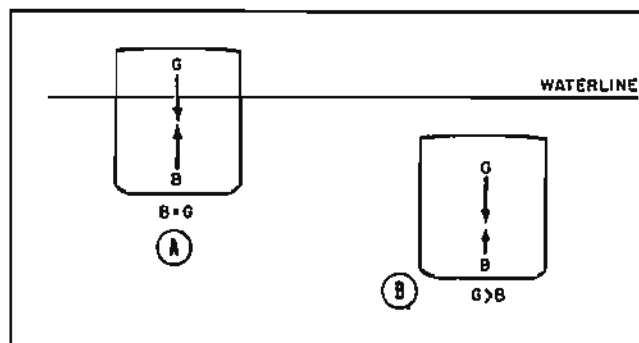

Figure 11-2. Interaction of force of gravity and force of buoyancy.
From Archimedes' law, we know that an object floating on or submerged in a fluid is buoyed up by a force equal to the weight of the fluid it displaces. The weight (displacement) of a vessel depends upon the weight of all parts, equipment, stores, and personnel. This total weight represents the effect of gravitational force. When a fishing vessel is floated, she sinks into the water until the weight of the fluid displaced by her underwater volume is equal to the weight of the vessel. At this point, the vessel is in equilibrium - that is, the forces of gravity (G) and the forces of buoyancy (B) are equal, and the algebraic sum of all forces acting upon the vessel is equal to zero. This condition is shown in part A of Figure 11-2.
If the underwater volume of the vessel is not sufficient to displace an amount of fluid equal to the weight of the vessel, the vessel will sink (part B of Figure 11-2) because the forces of gravity are greater than the forces of buoyancy.